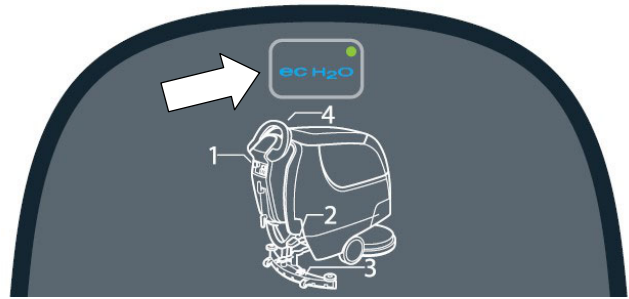

FIG. 33
3. ec- H2O Models: The ec-H2O system automatically turns on at each key start. A blue ec-H2O indicator appears when machine is equipped with the ec-H2O option. The green LED illuminates when ec-H2O is activated. To turn off the ec-H2O system, press the ec-H2O button. The green LED indicator will disappear (Figure 33).